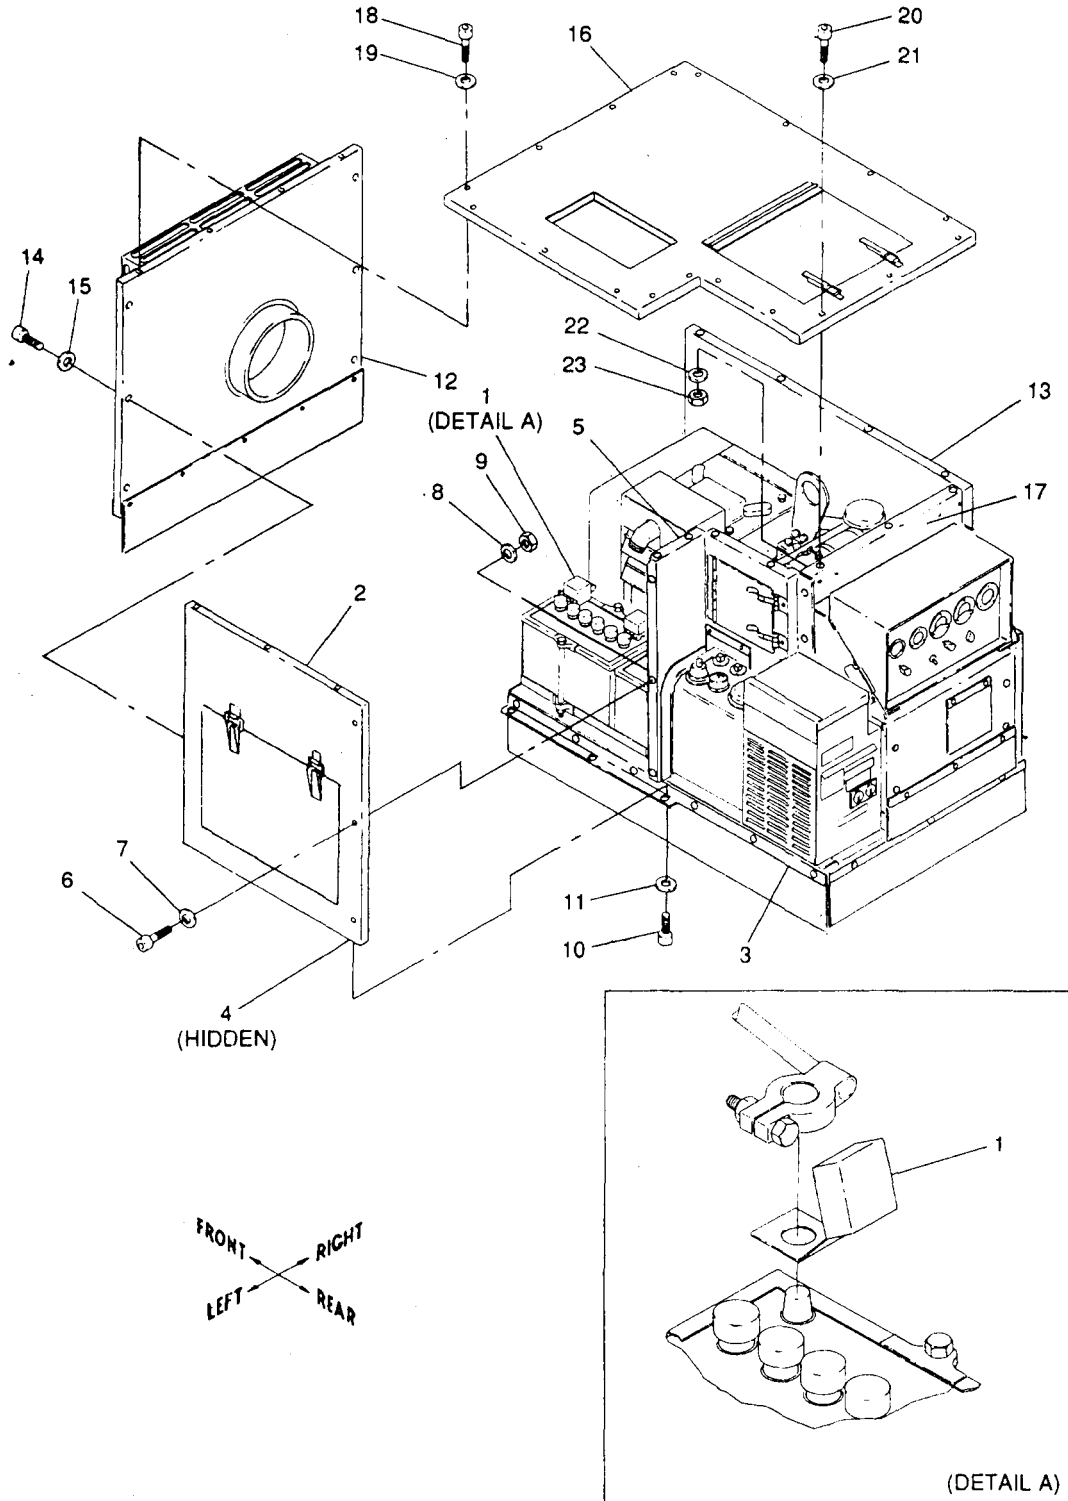

Figure 10-5. Installation of Left Panel, Front Panel and Top Panel Assemblies
(1) Refer to figure 10-5 and install battery terminal covers (1) (listed in Table 10-1, item 8). Disconnect cable clamps from battery terminals. Place 4 each terminal covers (1) over battery terminals (2 red terminal covers for positive battery terminals and 2 black terminal covers for negative battery terminals). Reconnect cable clamps to battery terminals. Cover cable clamps with terminal covers (1).
(2) Clear out acoustic fill from holes in left panel assembly (2) using 3/8 inch diameter pin.
(3) Locate left panel assembly (2) on left support assembly (3) by aligning captive nuts (4) in panel with holes in left support assembly (3).
(4) Install left panel assembly (2) to side closure assembly (5) with three screws (6), six washers (7 and 8) and three locknuts (9) and to left support assembly (3) with three screws (10) and three washers (11) (listed in table 10-1, item 8.)
(5) Torque screws (10) to 18 ±2 in.-lbs dry.
(6) Torque screws (6) to 16 ±2 ft-lbs dry.
(1) Refer to figure 10-5 and clear out acoustic fill from holes in front panel assembly (12) using 3/8 inch diameter pin.
(2) Install front panel assembly (12) to right panel assembly (13) and left panel assembly (2) with six screws (14) and six washers (15) (as listed in table 10-1, item 10). Start all screws by hand first.
(3) Torque screws (14) to 18 ±2 in.-lbs dry.
(1) Refer to figure 10-5 and clear out acoustic fill from holes in top panel assembly (16) using 3/8 inch diameter pin.